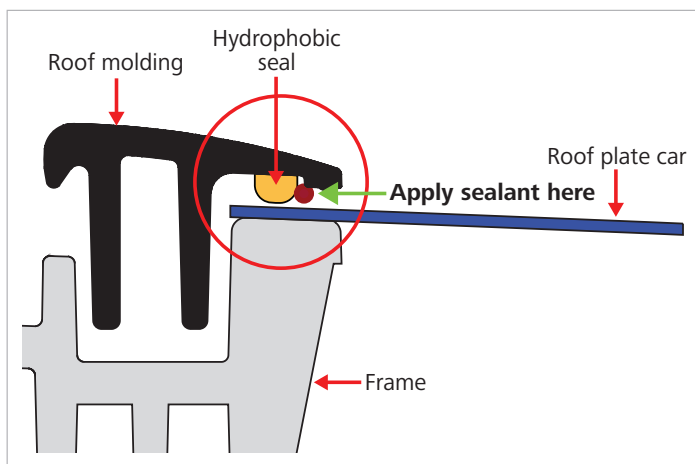

Fig. 03: Location of additional butylane sealant
- ▶ Before placing the roof molding, apply a small layer of butylane sealant (or equivalent) at the edge of the front corners of the roof molding, outside the hydrophobic seal (see Fig. 03).